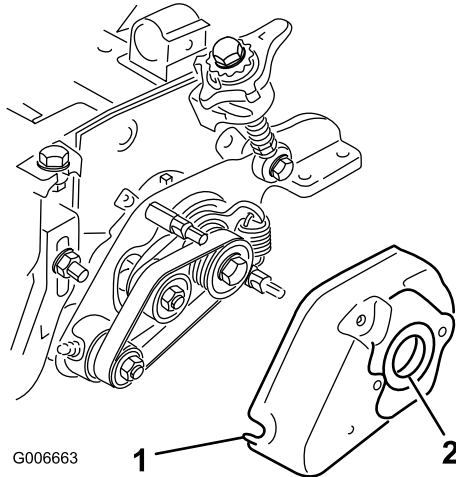
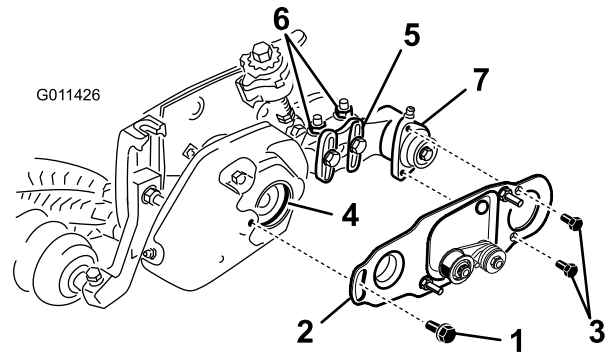

Figure 29
Figure 30
35. Install the groomer cover and secure with (2) 5/16 inch flange nuts (Figure 29).
36. Apply a film of grease to the inside diameter of the grommet in the groomer cover (Figure 29).
37. Loosen the bolts securing the roller brush bearing housing to the roller brush mounting bracket (Figure 30).
38. Install the roller brush pivot plate (Figure 30). When the protrusion on the pivot plate is inserted into the grommet on the groomer cover, make sure that the grommet stays properly seated on the cover.
39. Apply 242 Loctite (blue) to the (2) 5/16 x 5/8 inch capscrews and use them to mount the brush plate to the roller brush bearing housing (Figure 30). Torque the capscrews to 15-19 ft-lb.
- Loosen the (2) flange locknuts securing the roller brush mounting bracket to the cutting unit side plate (Figure 30).
- Rotate the roller brush bearing housing until the brush plate is parallel to the cutting unit side plate (Figure 30).
- Tighten the (2) flange locknuts securing the roller brush mounting bracket to the cutting unit side plate (Figure 30).
41. Apply 242 Loctite (blue) to the shoulder bolt (Figure 30). Mount the brush plate to the groomer cover with the shoulder bolt. (Fig. 29). Torque the bolt to 15-19 ft-lb.